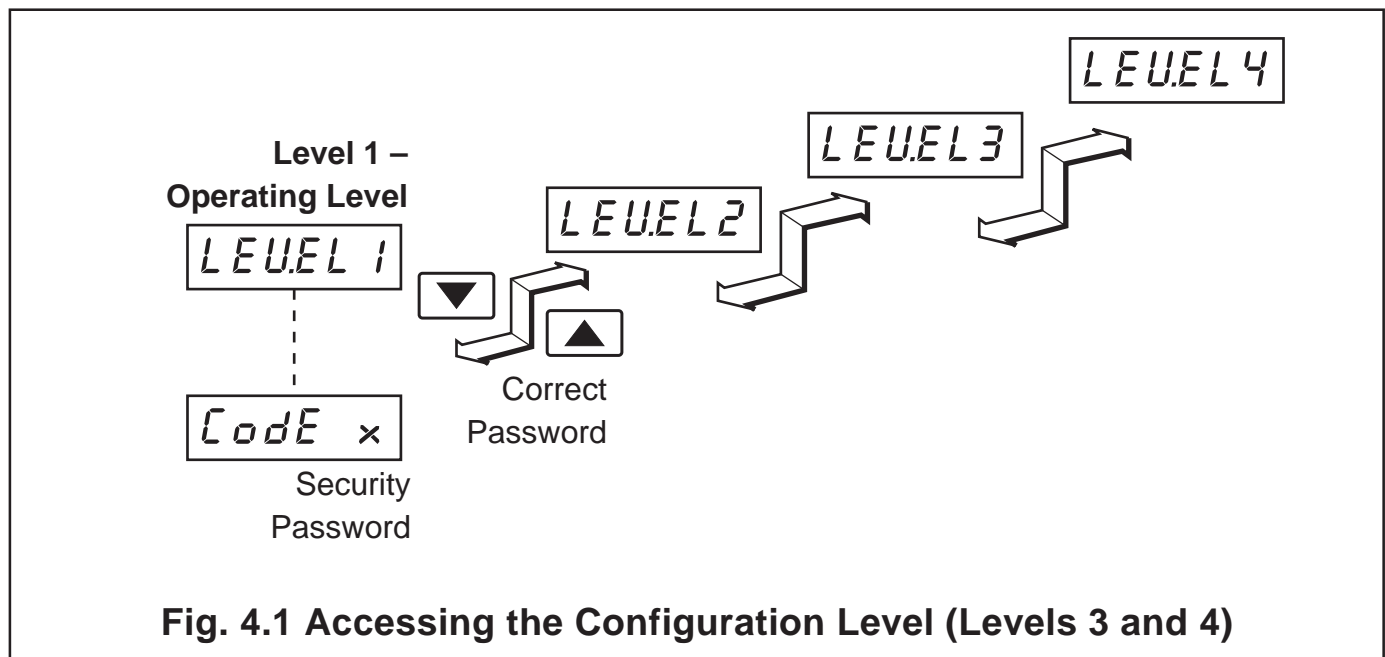

Fig. 4.1 Accessing the Configuration Level (Levels 3 and 4)
4.2 Accessing the Configuration Mode – Fig. 4.1